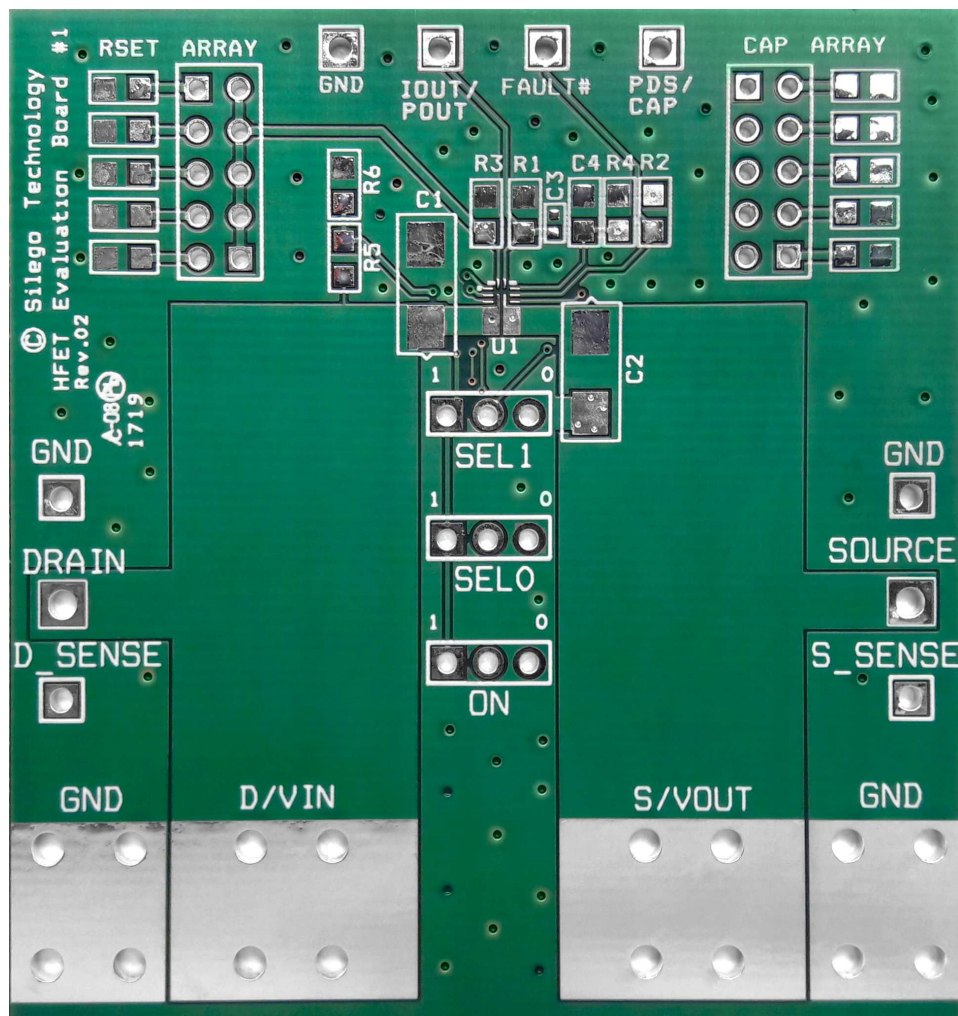

Figure 17. SLG59H1012V Evaluation Board
1. Since the VIN and VOUT pins dissipate most of the heat generated during high-load current operation, it is highly recommended to make power traces as short, direct, and wide as possible. A good practice is to make power traces with absolute minimum widths of 15 mils (0.381 mm) per Ampere. A representative layout, shown in Figure 17, illustrates proper techniques for heat to transfer as efficiently as possible out of the device;
A High Voltage GreenFET Evaluation Board for SLG59H1012V is designed according to the statements above and is illustrated on Figure 17. Please note that evaluation board has D\_Sense and S\_Sense pads. They cannot carry high currents and dedicated only for  $R_{DS(ON)}$  evaluation.